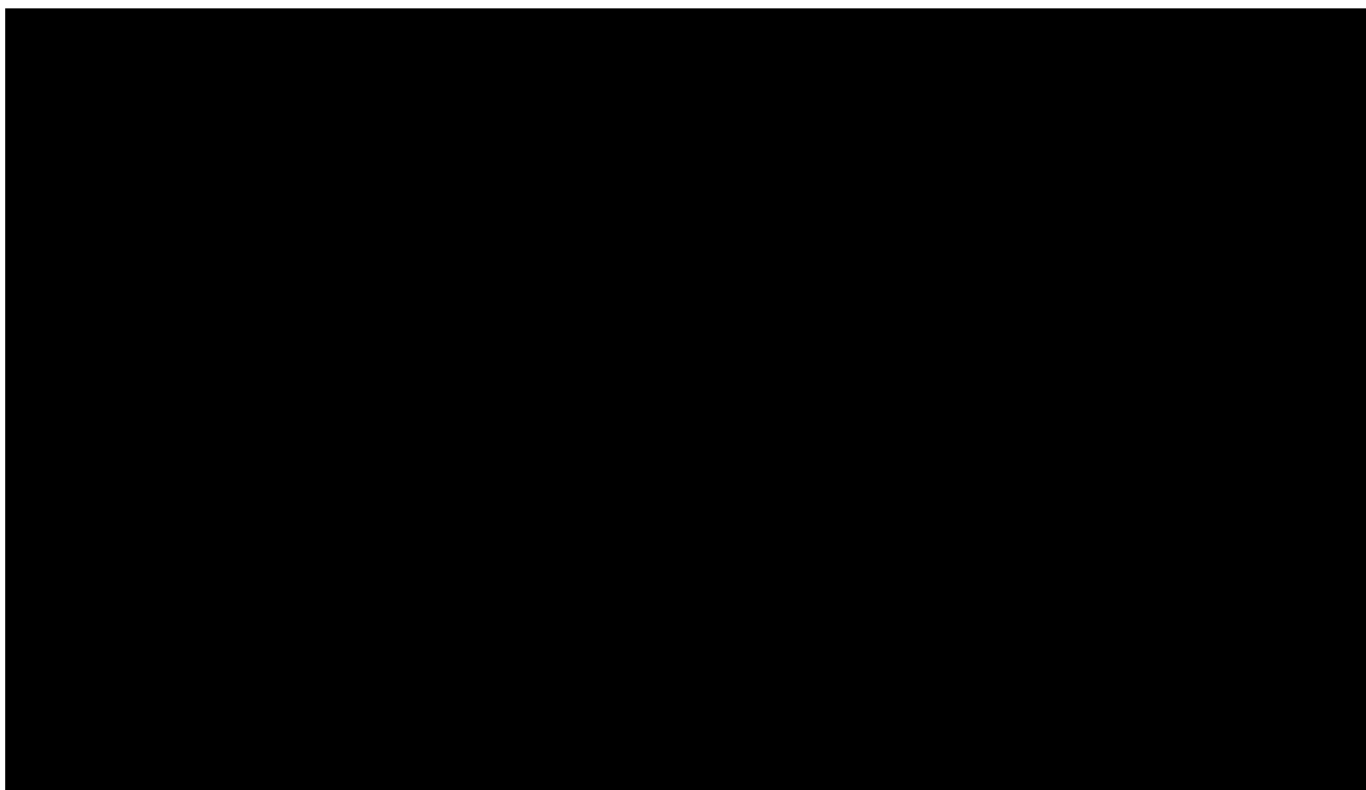

Fig. 2 (Sample Picture)
7.2.1.3 Select "Send" - Once the severity block has been selected the "Send" block needs to be left-clicked once. This initiates the appropriate alarm. Alarm Incident type, and severity will blink red until the alarm updates the area view. (See Fig 2) Note: The Alarm is not sent until the "Send" block has been left-clicked once. Note: All steps have to be performed within ten seconds of the first step or the screen will clear all entries. An "All Call" will be issued at the time an alarm is activated and approximately every 30 minutes thereafter during the incident to update the facility of the alarm status.